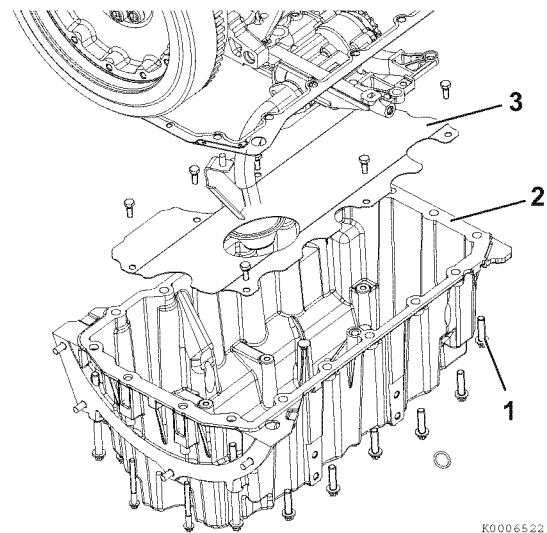

Figure 8-16
4. Remove bolts (1, **Figure 8-16**) securing oil sump to cylinder block.
5. Remove oil sump (2, **Figure 8-16**) and gasket (3, **Figure 8-16**).